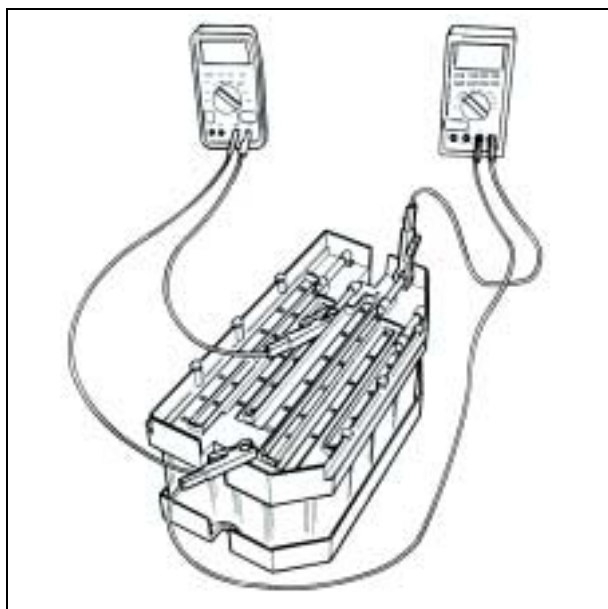

Fig. 7
**WARNING****Residual voltage up to 353 VDC may still be present.****Risk of high voltage.****Use insulated tools and do not touch bars that may contain voltage (Fig. 7).**